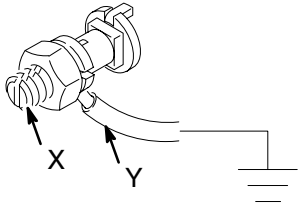

Fig. 1
Agitator and drum cover: Connect one end of the ground wire (Y) to the ground connector (X) on the rim of the drum cover. See Fig. 1. Connect the other end of the ground wire to a true earth ground. *See the pump instruction manual (307986 for 230992, 307985 for model 230993, or 308793 for model 220575) for instructions on grounding the pump.*